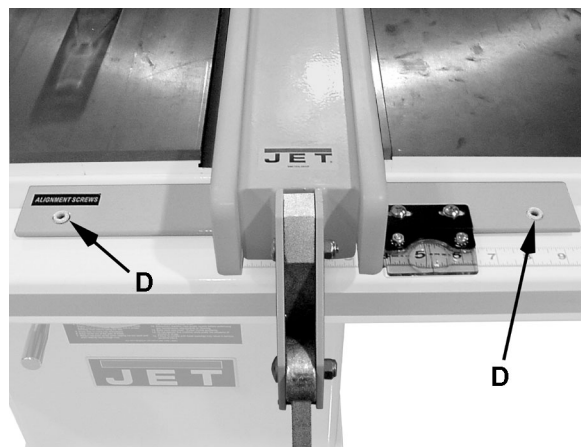

Figure 17
4. Raise or lower two nylon adjustment screws (D, Fig. 17) *the same number of turns* until the space between the bottom of the fence and the table is the same. Care must be taken to raise or lower the fence on each side equally or the fence may not be 90° to the table after the height adjustment is performed.